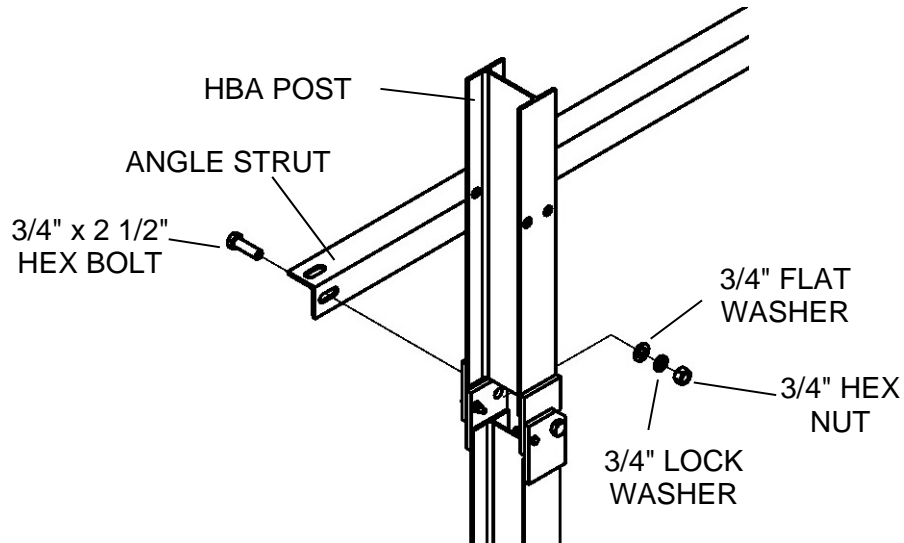

Figure 7 - Angle Strut Assembly
- 3.1 Attach the Angle Strut to the HBA Post using (1) 3/4" x 2 1/2" hex bolt, (1) 3/4" flat washer, (1) 3/4" lock washer and (1) 3/4" hex nut. The flat washer and lock washers are placed under the hex nut as shown in Figure 7.